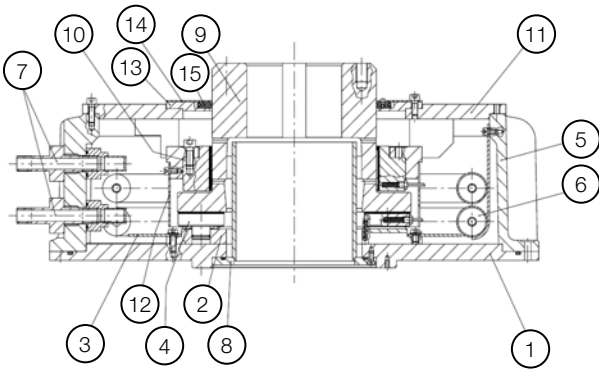

Figure 7.11: Upper thrust bearing
The upper thrust bearing function is to withstand the weight of the motor and the axial thrust for which it was designed. Its main elements are the stationary axial pads and the rotating pivots (see Figure 7.11).
**Figure 7.11 legend:**